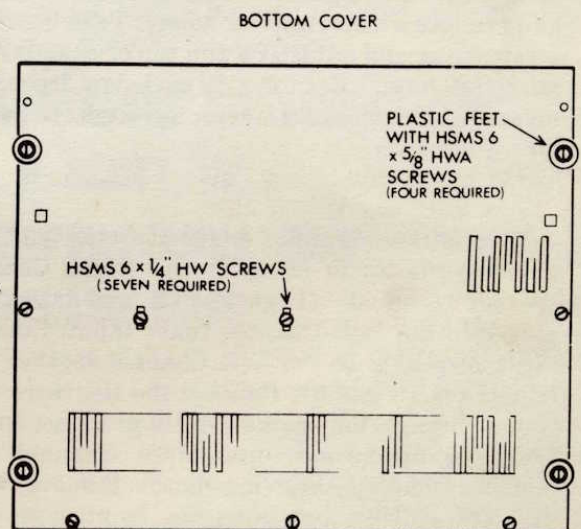

FIGURE 11
5. ☒ Assemble the bottom cover as shown in (Figure 11).